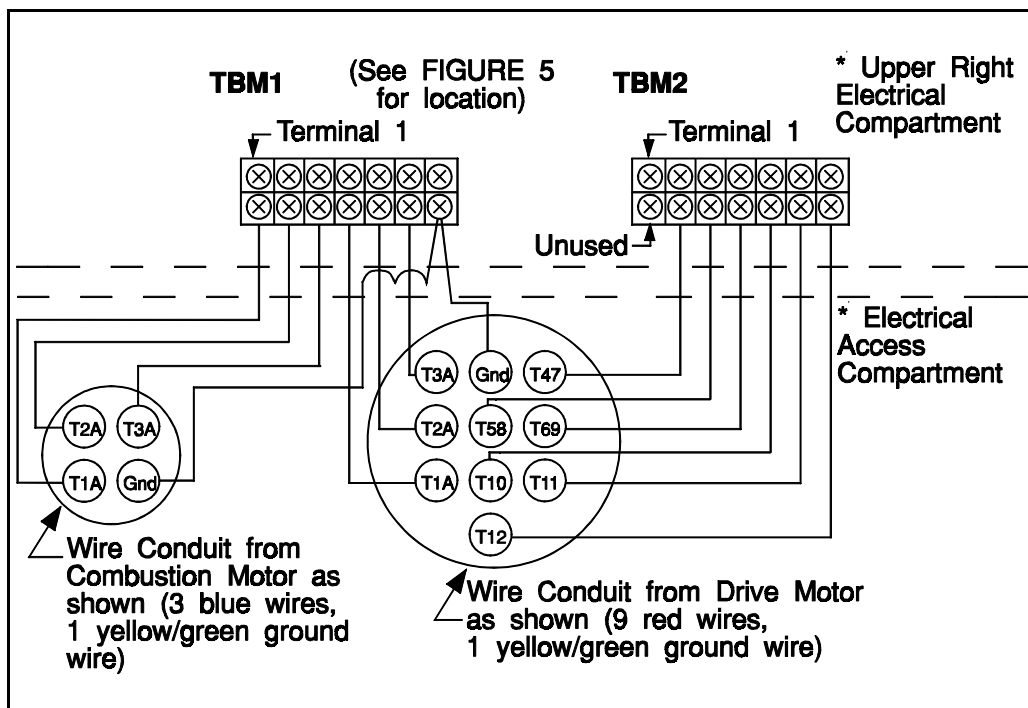

FIGURE 8 (MSIN0108AE)
- 3a. For machines without variable speed cylinder drive, make connections from the cylinder drive and combustion motor conduits (located in the Electrical Access Compartment) to TBM1 and TBM2 (located in the Upper Right Hand Electrical Compartment) as shown in FIGURE 8.